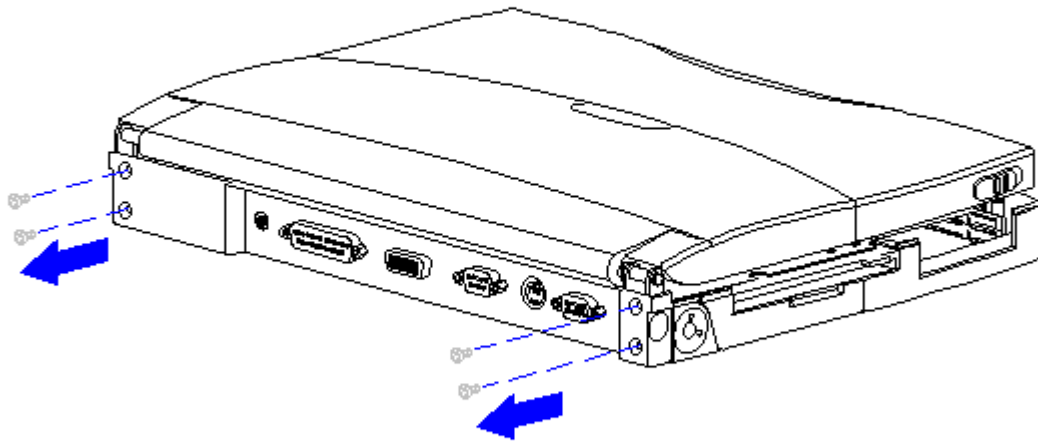

Figure 3-188. Removing the Rear Clutch Screws (All Models)
9. Using a Torx T8 or slotted driver, remove the four clutch screws on the rear of the system unit module (Figure 3-188).